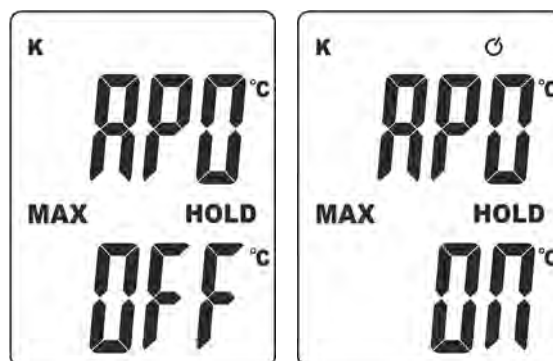

Fig. 4: Disable/enable Auto Power OFF
2. By pushing long (>1s) the **ON/OFF** key. The "APO OFF" message is shown at display for a while (see Fig. 4 – left part) and the "⏻" symbol disappears from display
3. Repeat the same operation of the point 1 and 2 for enable again the function with "APO ON" message shown at display (see Fig. 4 – right part) or the feature is automatically restored after each shutdown